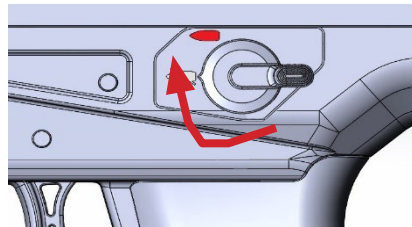

Figure 14: Adjusting the Safety Selector to "Fire"
3. When on target and ready to fire, rotate the safety selector switch to "Fire." (Figure 14)